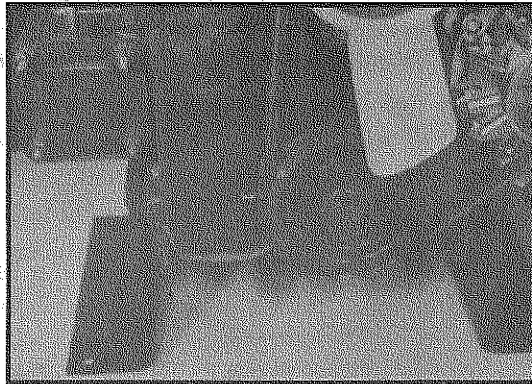

Fig. 18
c) The positioning of no. 1 cylinder piston at top dead centre may be checked by mating marks on the distribution cover and the crank pulley (Fig. 18).